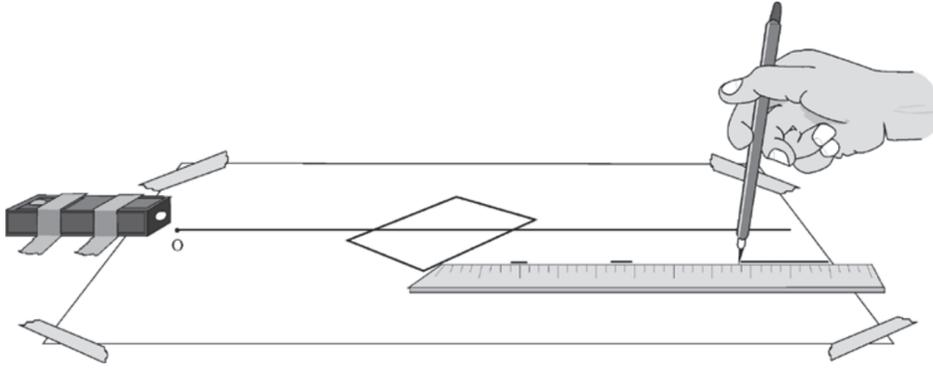

Figure 6 – Refracted Beam Drawing Illustrated
- Remove the block. Draw a best-fit straight line through the marks along the exit beam path. Refer to Figure 6.